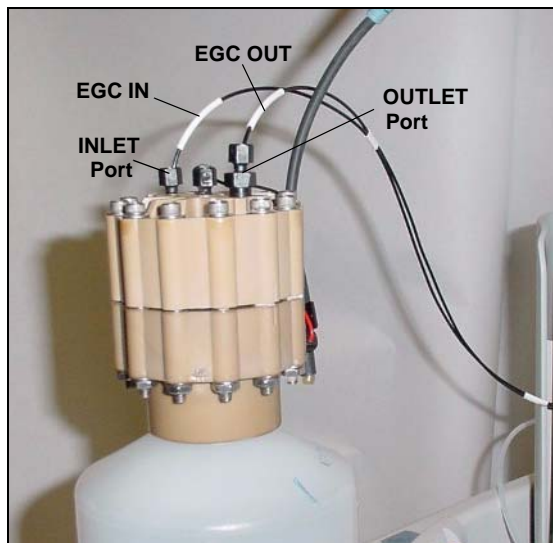

Figure 5-45. EluGen Cartridge Inlet and Outlet Connections
13. Connect the **EGC OUT** line from the holder to the **OUTLET** port (see Figure 5-45).